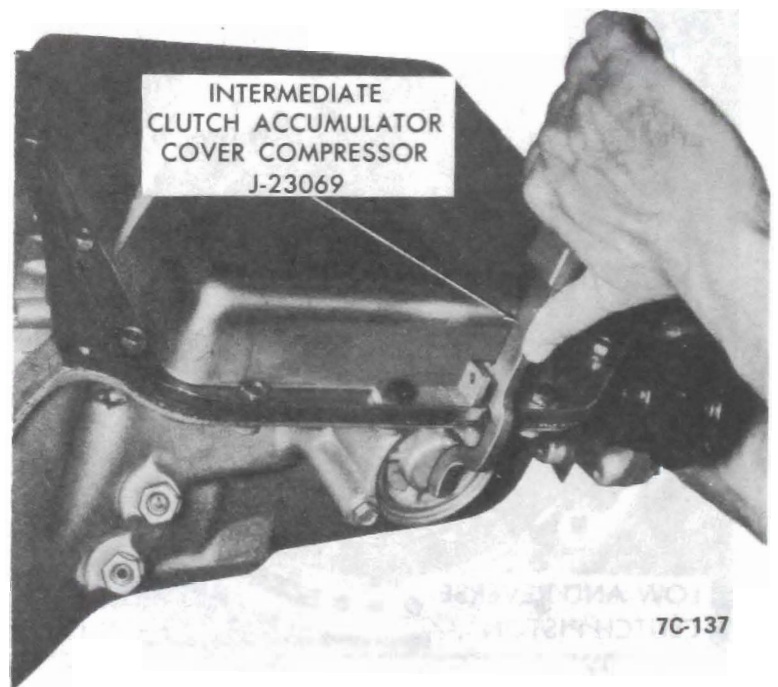

Figure 7C-137
2. Install intermediate clutch accumulator piston spring. See Figure 7C-139.